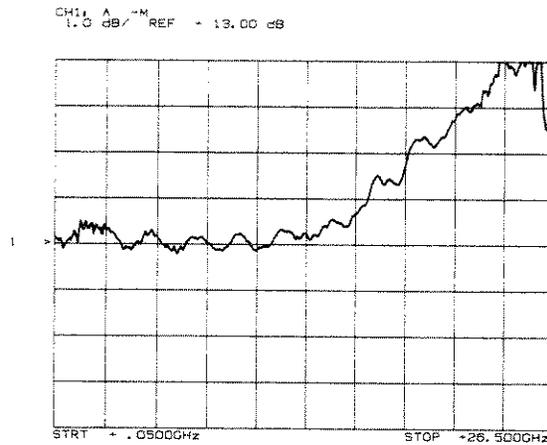

Figure 5-36. Breakpoint adjusted to start having effect at 13 GHz; SL pot full clockwise
30. The following adjustments affect the displayed output from left to right, with A5R34 (BP1) and A5R41 (SL1) having the greatest effect. The breakpoint and slope adjustments are done in pairs. A5R34 (BP1) and A5R41 (SL1) will be adjusted before continuing to A5R36 (BP2) and A5R42 (SL2) and so on. Identify the breakpoint (see figure 5-36).